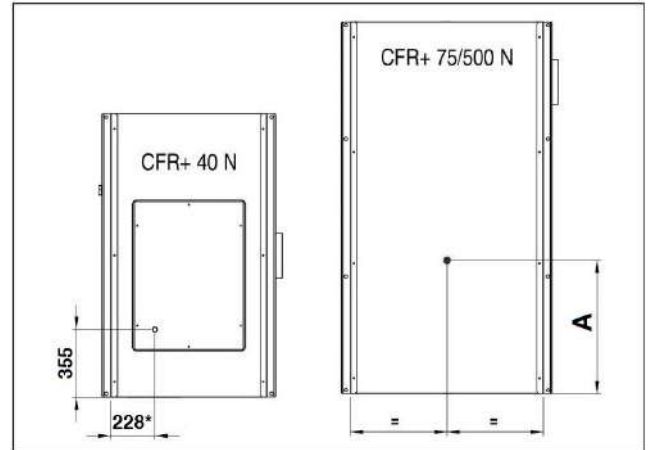

Fig.13
- The condensate drain is located in the underside of the unit, as show in the figure 13.